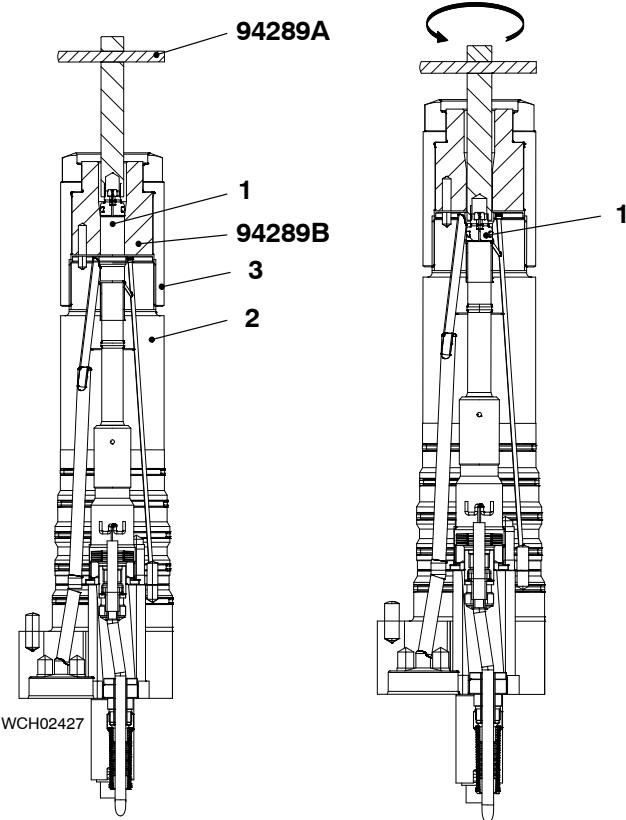

Fig. 7
- 1) Install the pilot valve (1, Fig. 7) in the injection valve (2) as follows: